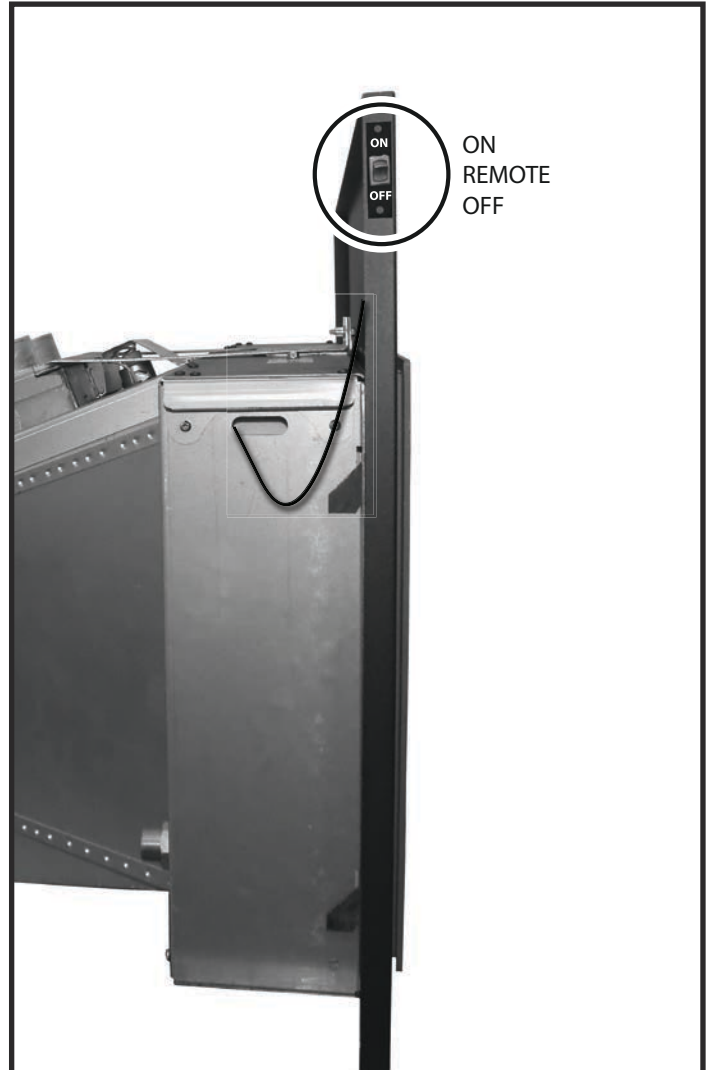

Figure 104: On Off switch for SIT units.
2. With the surround backing plate positioned in front of the fireplace, position the switch in behind the open slot in the backing plate and screw into place (Figure 104).